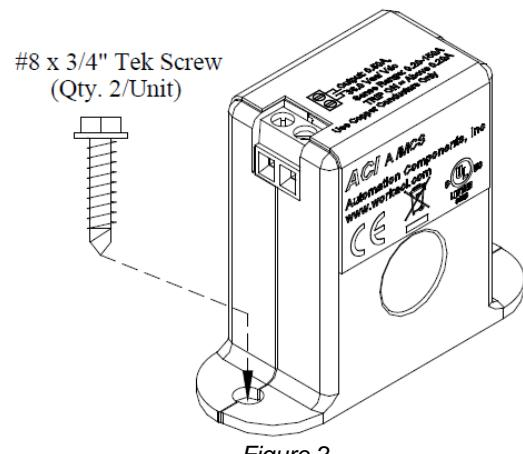

Figure 2
Make sure that all installations are in compliance with all national and local electrical codes. Only qualified individuals that are familiar with codes, standards, and proper safety procedures for high-voltage installations should attempt installation. The current switches will not require external power, since the power for the current switch is induced from the conductor being monitored. The A/MCS and A/MSCS Current Switches should be used on Insulated Conductors Only! The current switch may be mounted in any position using the (2) #8 x 3/4" Tek screws and the mounting holes in the base (see Figure 2). Leave a minimum distance of 1" (3 cm) between the current switch and any other magnetic devices such as contactors and transformers.